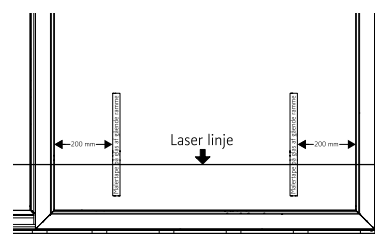

Figure 14: Laser position 0 – apply tape to sash
- Apply painter's tape vertically on both sides of the master sash, centered over the wheels at a height that intersects the laser beam (figure 14).